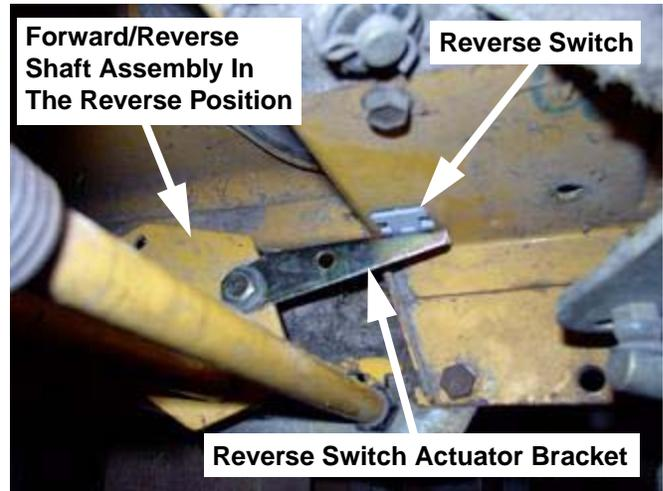

FIGURE 8
24. Have a co-worker step on the reverse pedal. Make sure the reverse actuator switch is making contact with the reverse switch. See Figure 8.